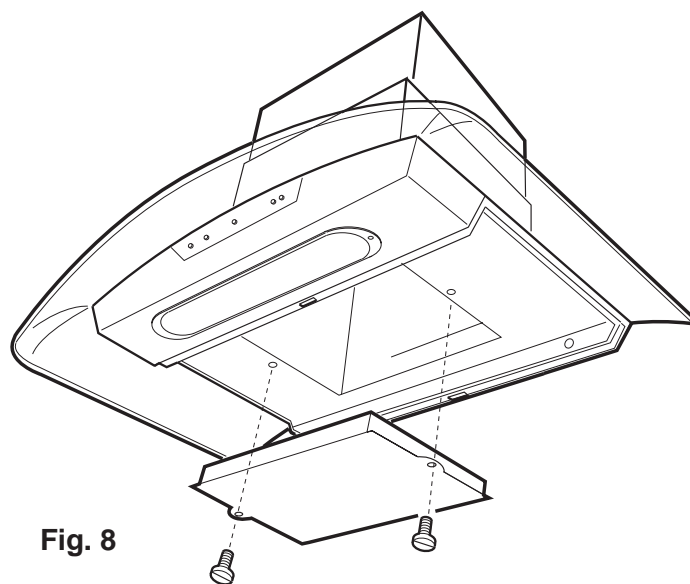

Fig. 8
- Fix the carbon filter with its two screws (Fig. 8).
To remove the carbon filter, first remove the grease metal filters and then unscrew the two screws that holds the grease filter and pull the filter down (Fig. 8).